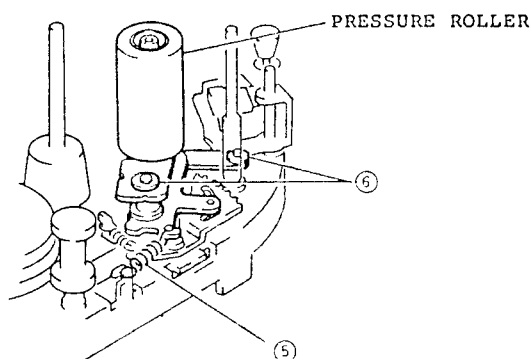

Fig. 2-80
5. Release the spring between the pressure roller and chassis. (See Fig. 2-80)
6. Remove two (2) washers holding the pressure roller and pull out the pressure roller from the chassis.